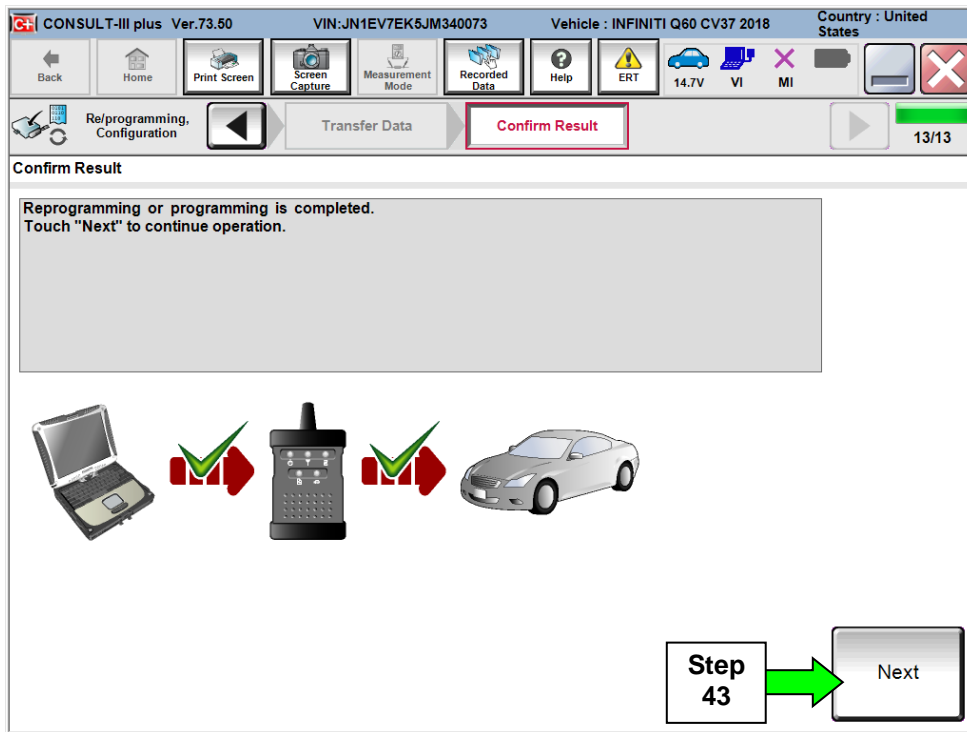

Figure 25
41. When the screen in Figure 25 displays, the reprogramming is complete.
NOTE: If the screen in Figure 25 does not display (reprogramming does not complete), refer to the information on the next page.